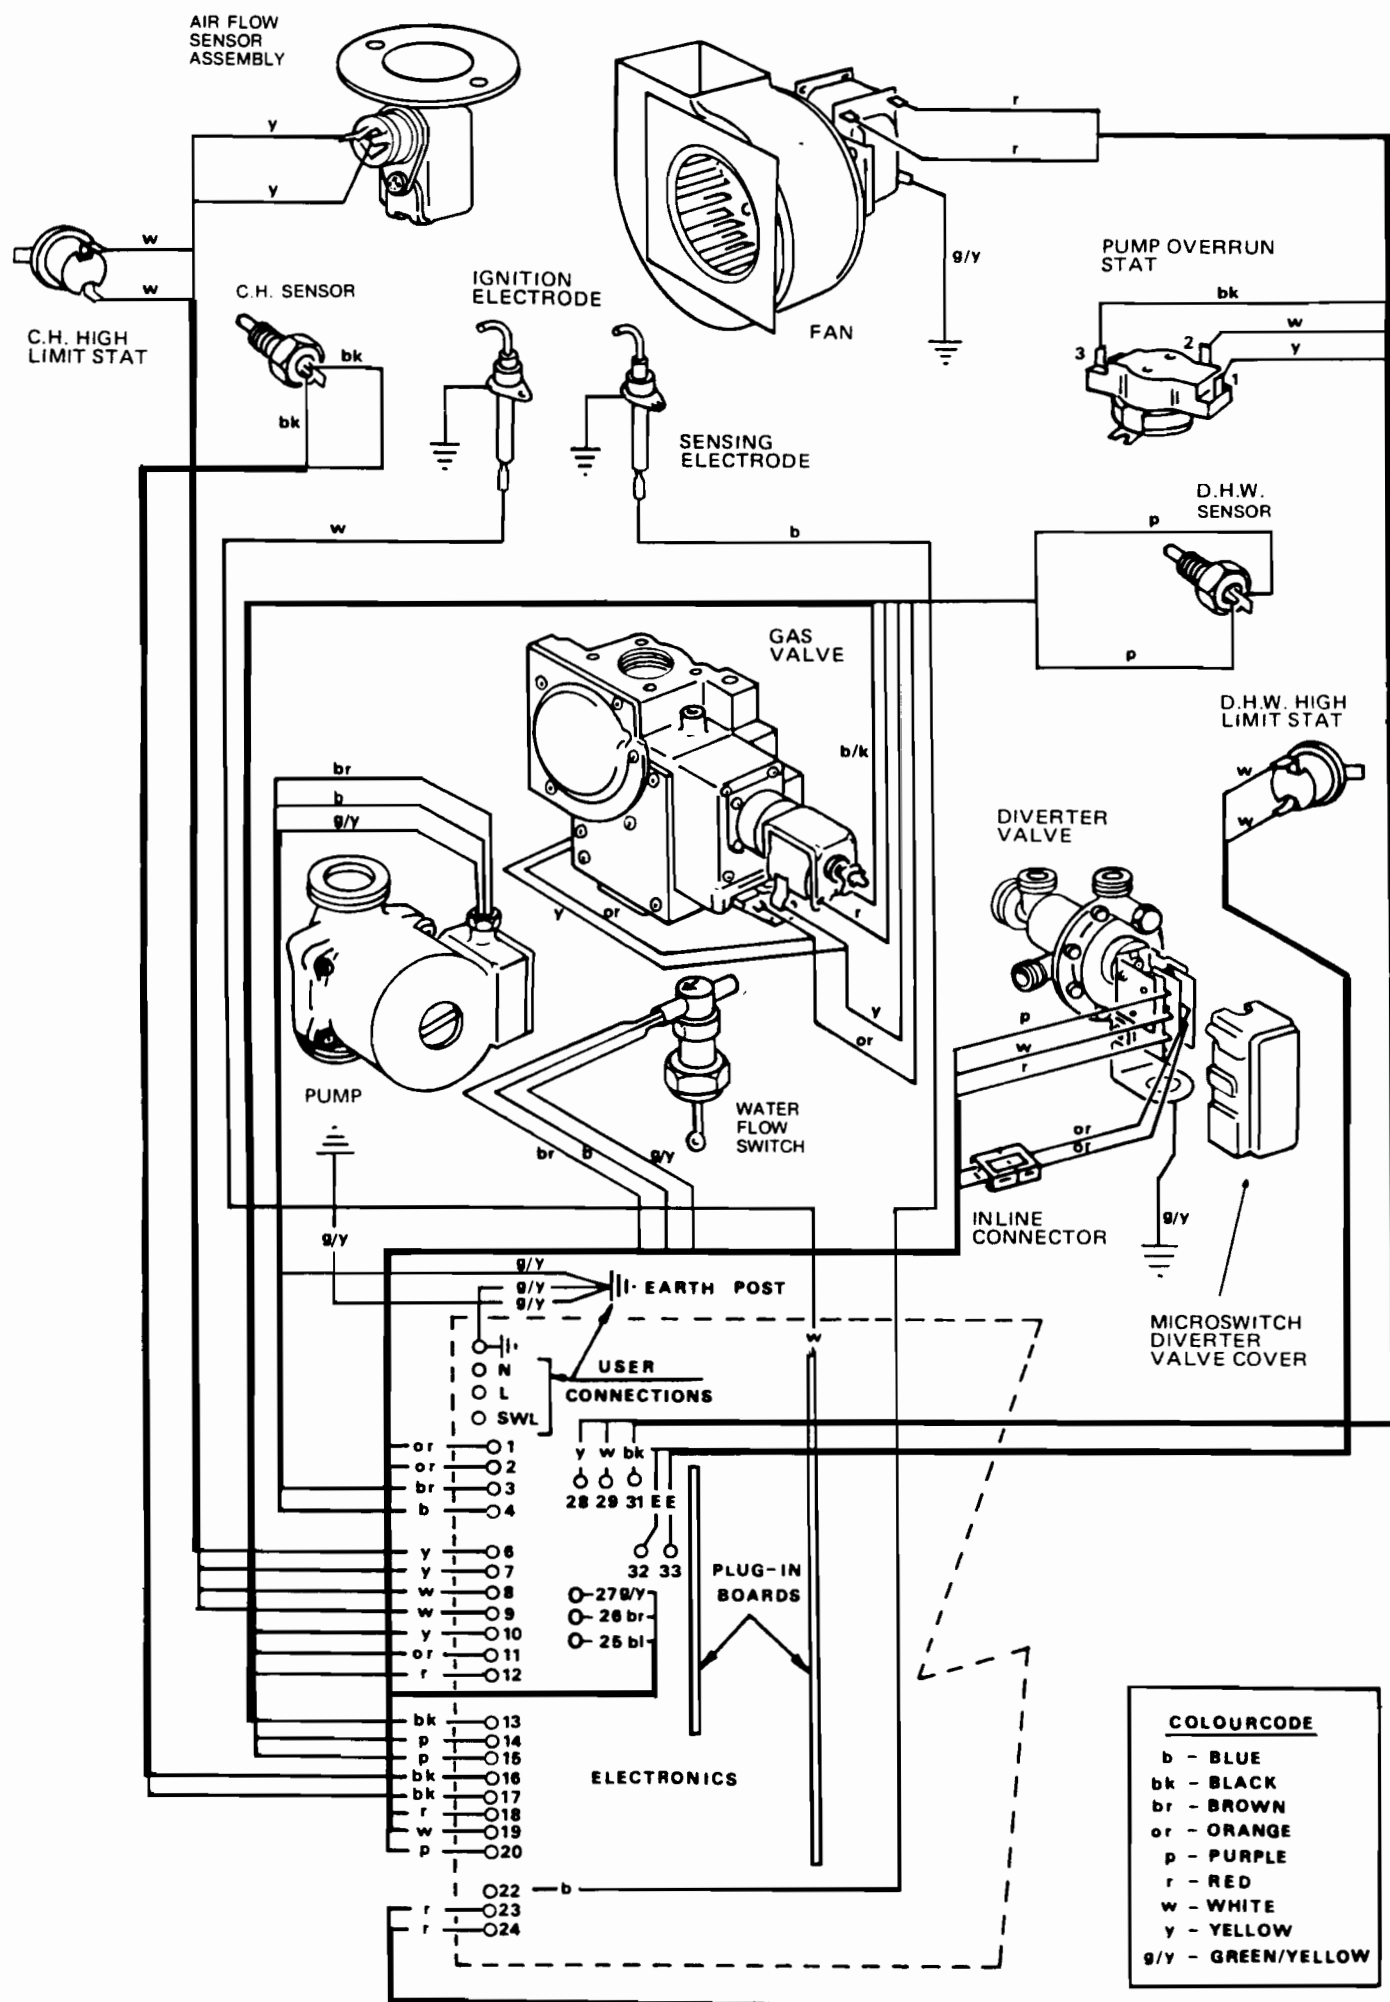

FIG. 45 PICTORIAL SCHEMATIC WIRING DIAGRAM
- (iii) Disconnect the three wires from the connections at the micro switch, noting which terminals they come from (see Fig. 45).
- d) Connect the three wires in the order indicated in Fig. 45 to the new switch assembly.